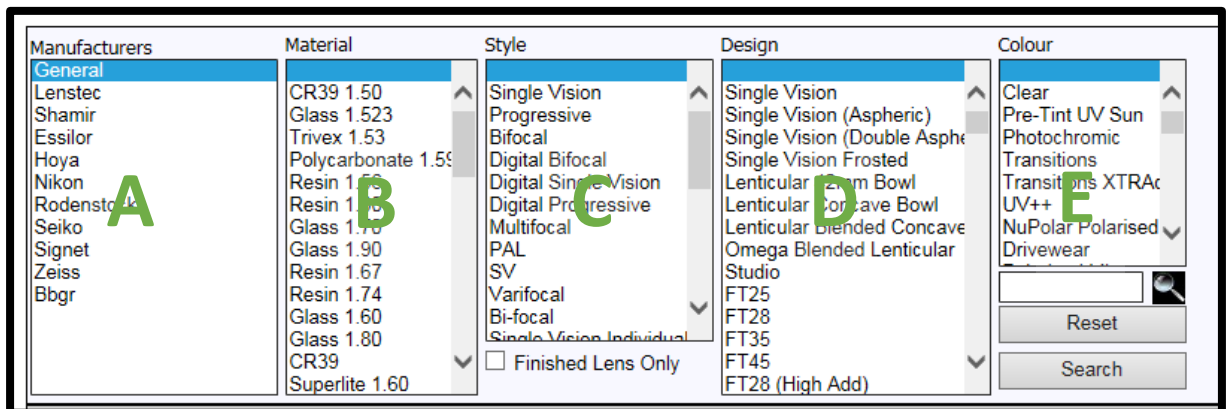

Fig 11.0
14. When you click on the Right Lens field you will be shown the lens selection screen (see fig 11.0)